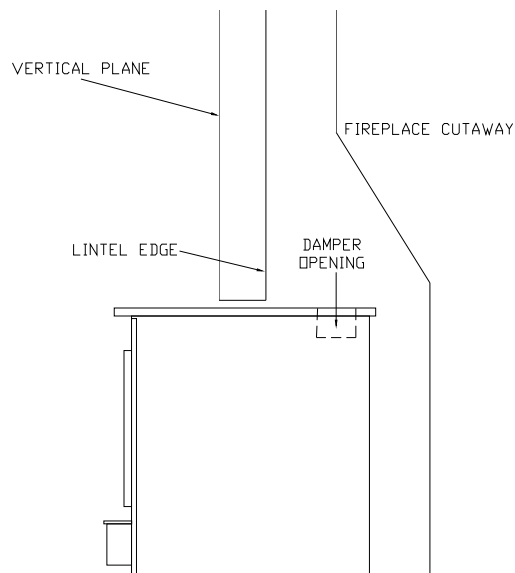

FIGURE 2 **POSITIONING**
When positioning the heater, the following conditions **MUST** be met! (See Figure 2)
1. The front of the damper opening must be positioned **BEHIND** the rear edge of the lintel to ensure proper draft. (See Figure 2)
After the unit is positioned, as shown in Figure 2, mark the mounting position of the trim panels as follows: